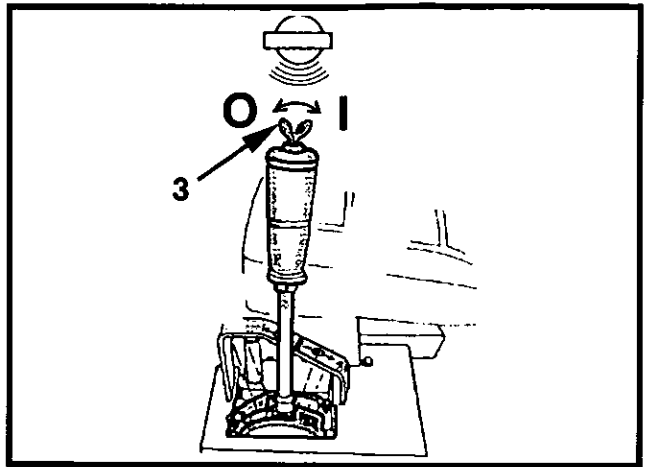

Figure 4-17 Vibration ON/OFF Control Switch
1. Vibration ON/OFF control (3, Figure 4-17).
2. For normal stopping, move propulsion control lever slowly to the STOP position (Figure 4-17).